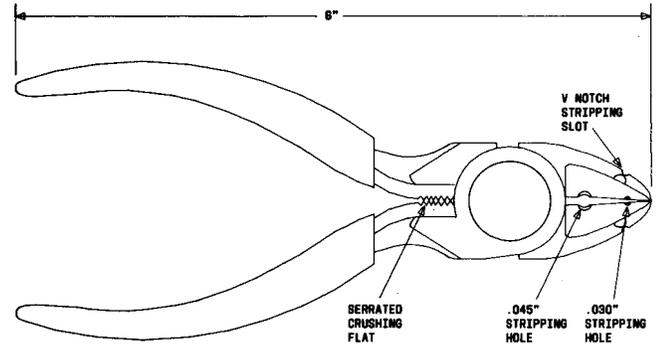

Fig. 2—AT-7858 D 6-Inch Diagonal Pliers
2.02 **AT-7858 D:** The AT-7858 D tools are 6-inch diagonal pliers (Fig. 2) used on rubber covered service wire such as high-strength drop wire, as well as distributing frame wire. These tools replace the AT-6655 and the AT-7858 tools.